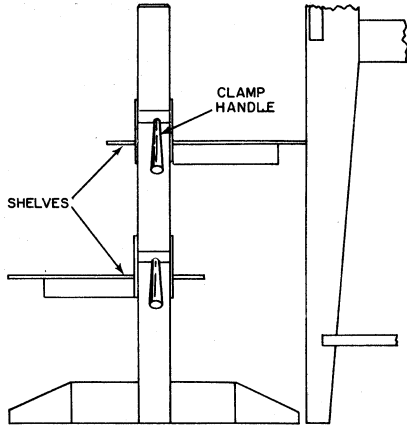

Figure 3
2. Install the shelves on the upright so they extend over the base and lock each shelf in position by pushing down on the clamp handle (Figure 3). The upper shelf is to hold the unused forms and it should always extend toward the Flexowriter and touch the back of the Flexowriter stand. The lower shelf accepts the typed forms and it should extend toward the rear away from the Flexowriter.